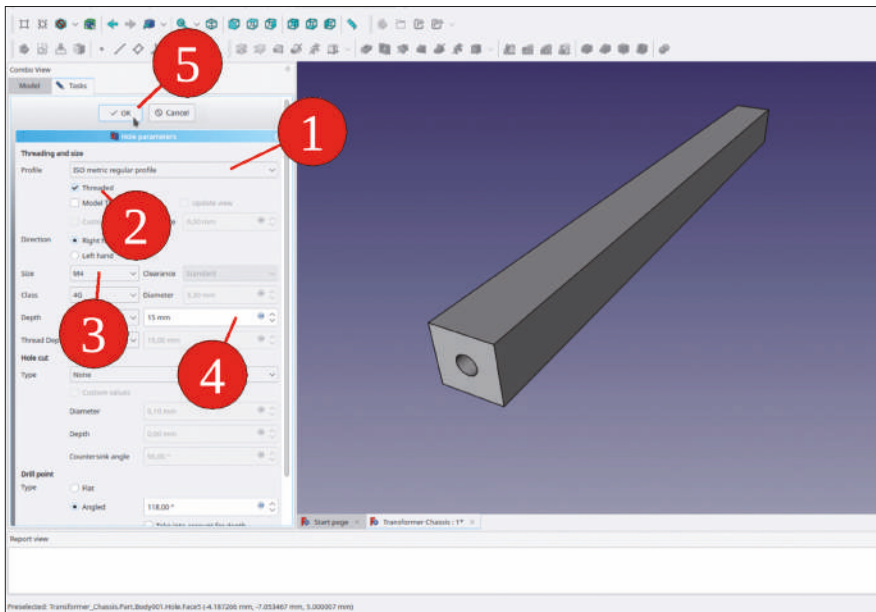

Figure 9-63
34. In the task window, select the profile 'ISO metric regular' and set the size to M4. Check the 'Threaded' checkbox and set the depth of the hole to 15 mm (Figure 9-63). Close the task window with the 'OK' button.